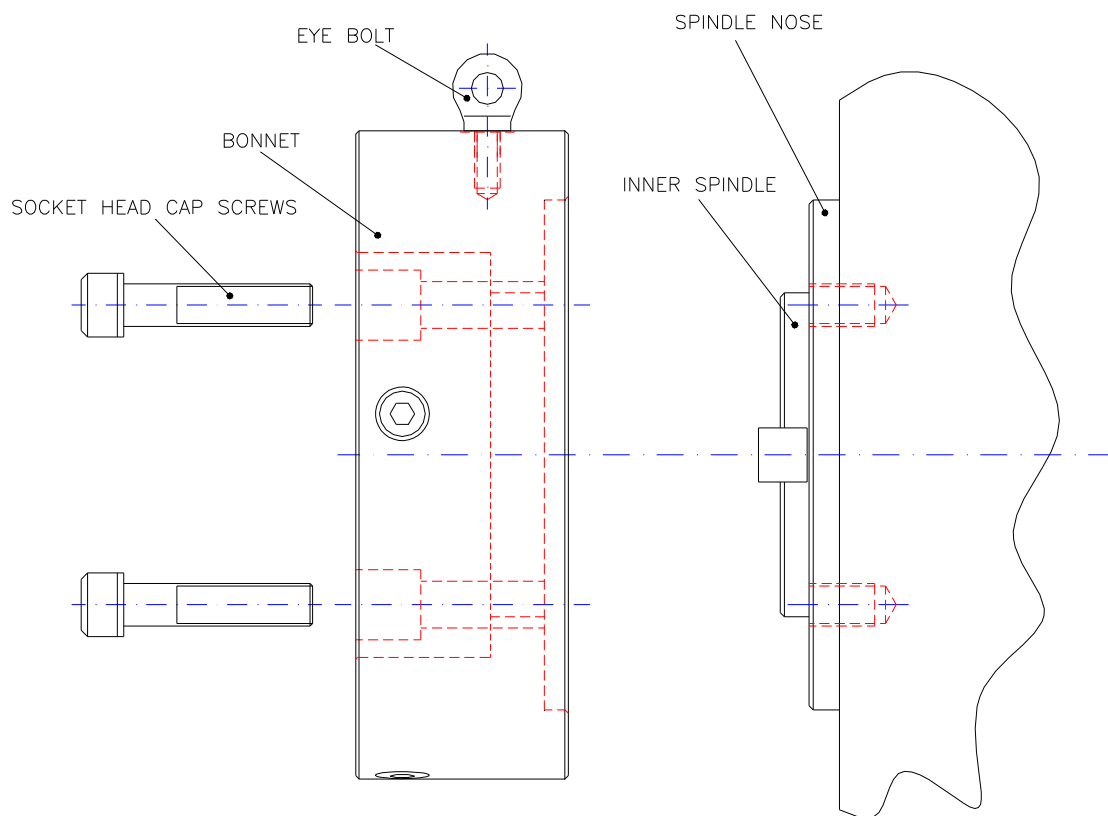

Fig 1.01 Fitting the bonnet to the spindle nose
1. Using an eyebolt and ensuring both the bonnet and spindle nose location diameters are thoroughly clean carefully lift the bonnet and locate it onto the spindle nose of the machine. Secure the bonnet in position with the four socket head cap screws (See fig 1.01)